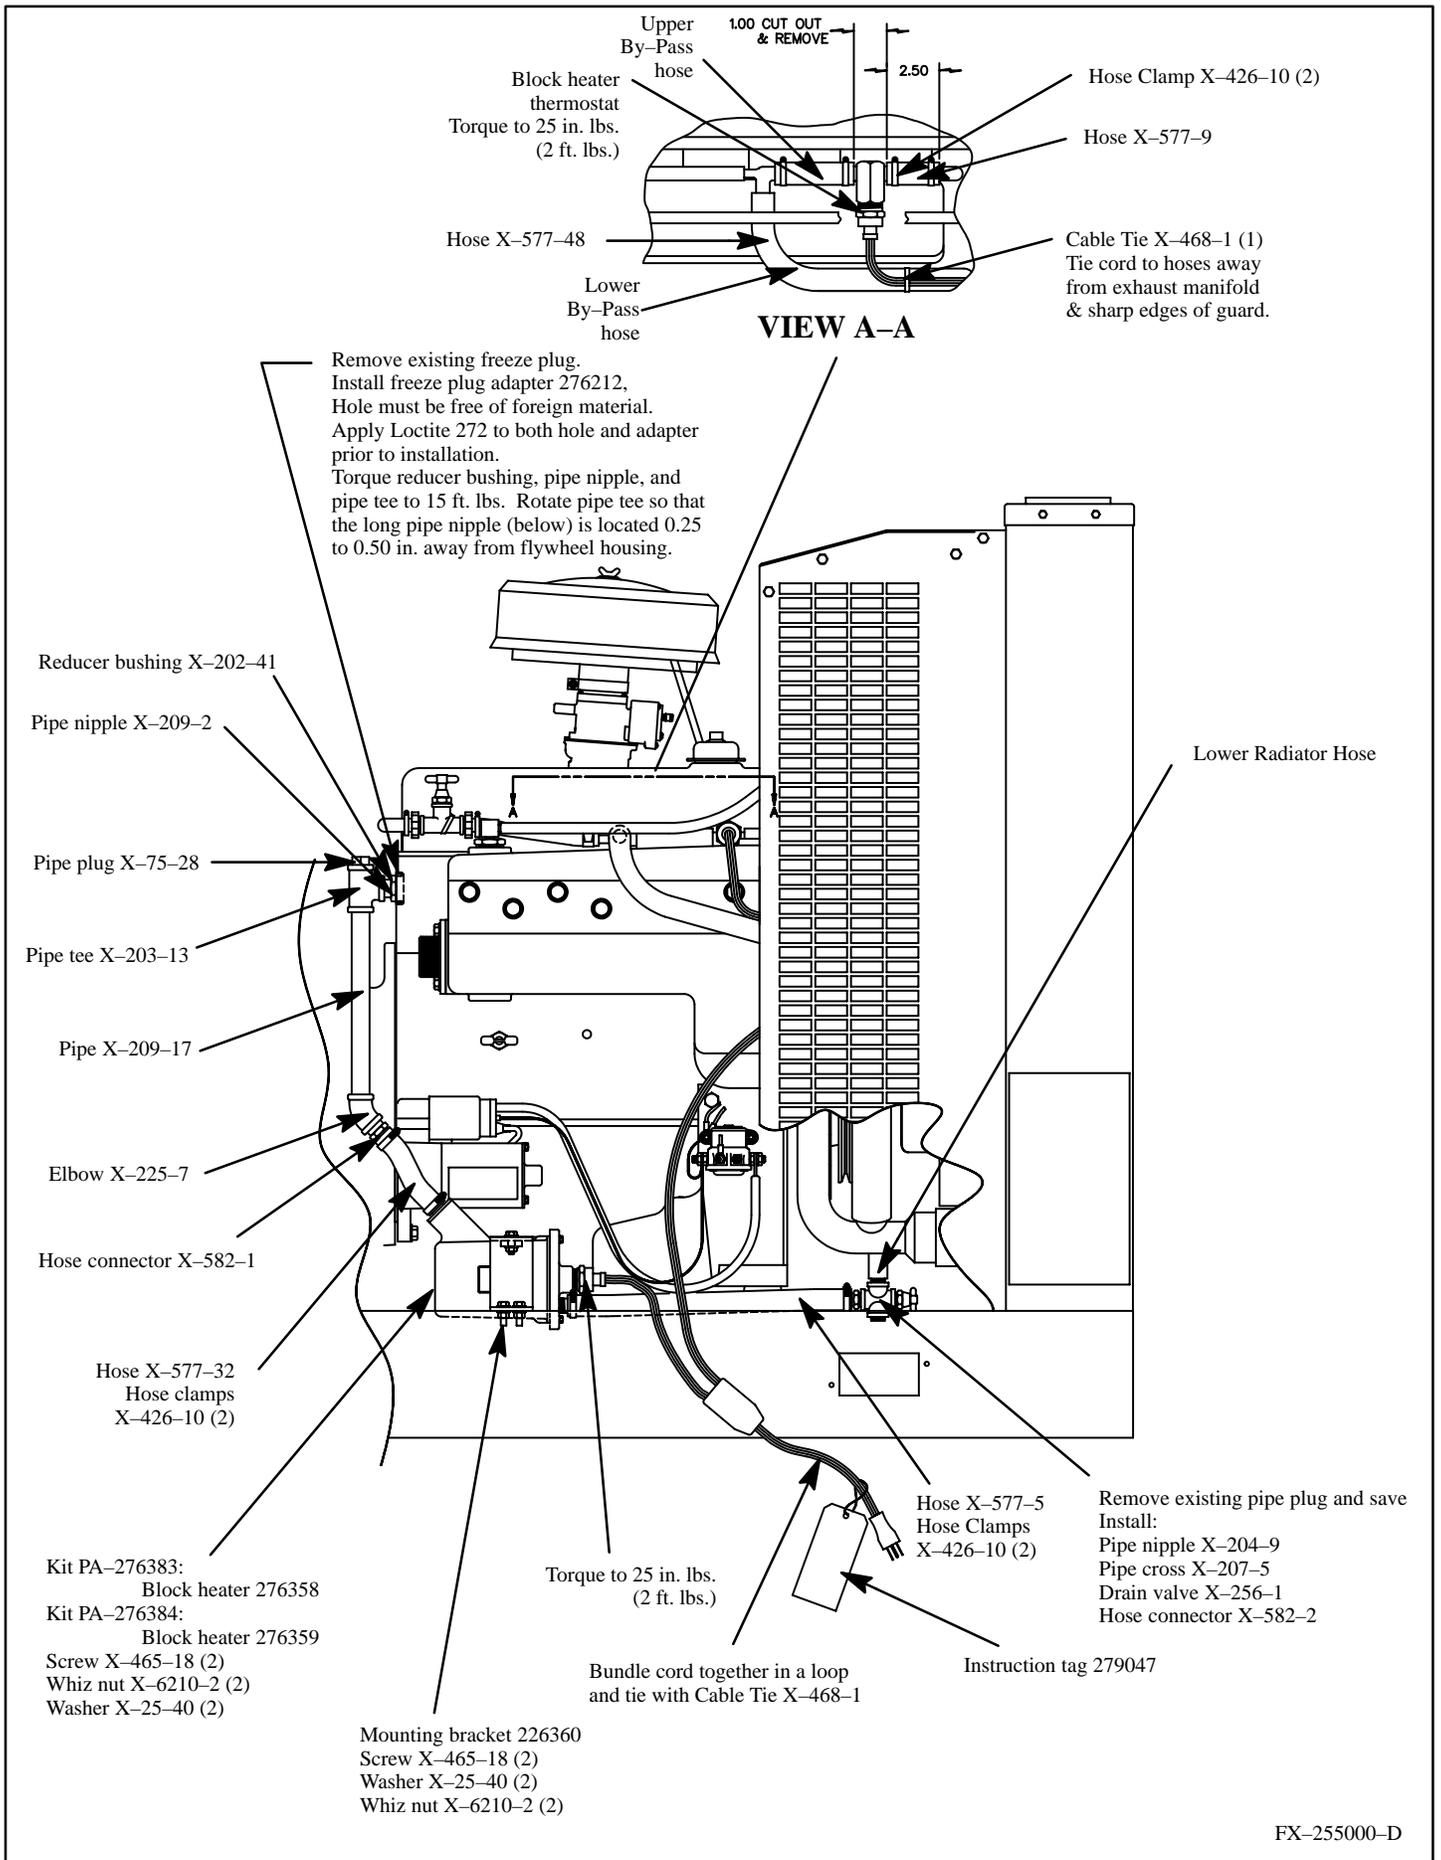

Figure 1. Block Heater Installation
3. Remove freeze plug from engine. See Figure 1 for location. To remove freeze plug, use a freeze plug puller, or puncture center with punch and pry out. Clean hole and remove burrs.
13. Install block heater 276358/276359 to bracket using two screws X-465-18, plain washers X-25-40, and whiz nuts X-6210-2. Note torque specification in Figure 1.
15. Locate lower radiator hose (see Figure 1) and remove and save pipe plug.
18. Apply pipe sealant to male threads of drain valve X-256-1 and install into cross pipe at position shown in Figure 1.
19. Apply pipe sealant to male threads on hose connector X-582-2 and install into cross pipe at position shown in Figure 1.
24. Place two hose clamps X-426-10 on cut by-pass hose (one on each end). Install thermostat (reference torque specification in Figure 1.) Locate hose clamps 1/4 in. (6 mm) from the end of the hose and tighten. Tie the thermostat's cord to hoses away from exhaust manifold and sharp edges of guard using cable tie X-468-1.
Earlier generator sets may not have by-pass hoses long enough to accommodate the installation of the thermostat. Locate the upper by-pass hose (see Figure 1, View A-A). If this hose measures approximately 2 to 3 inches (51 to 76 mm) it will need to be replaced, see Steps 21 and 22. If the hose measures approximately 7 to 8 inches (178 to 203 mm) proceed to Step 23.